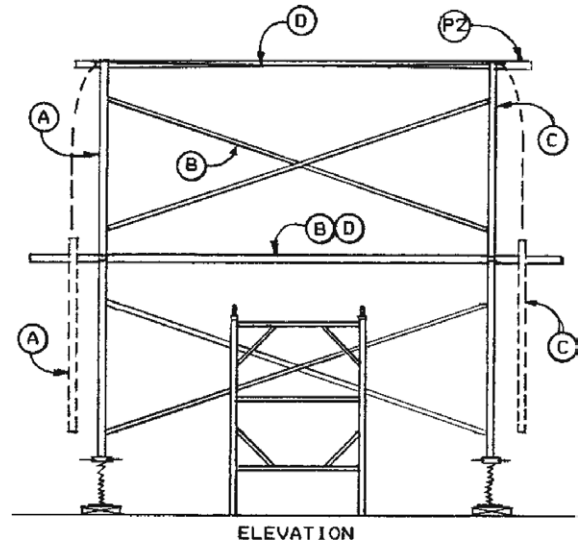

Fig. 37
11. Install cross braces as described earlier (Fig. 37).